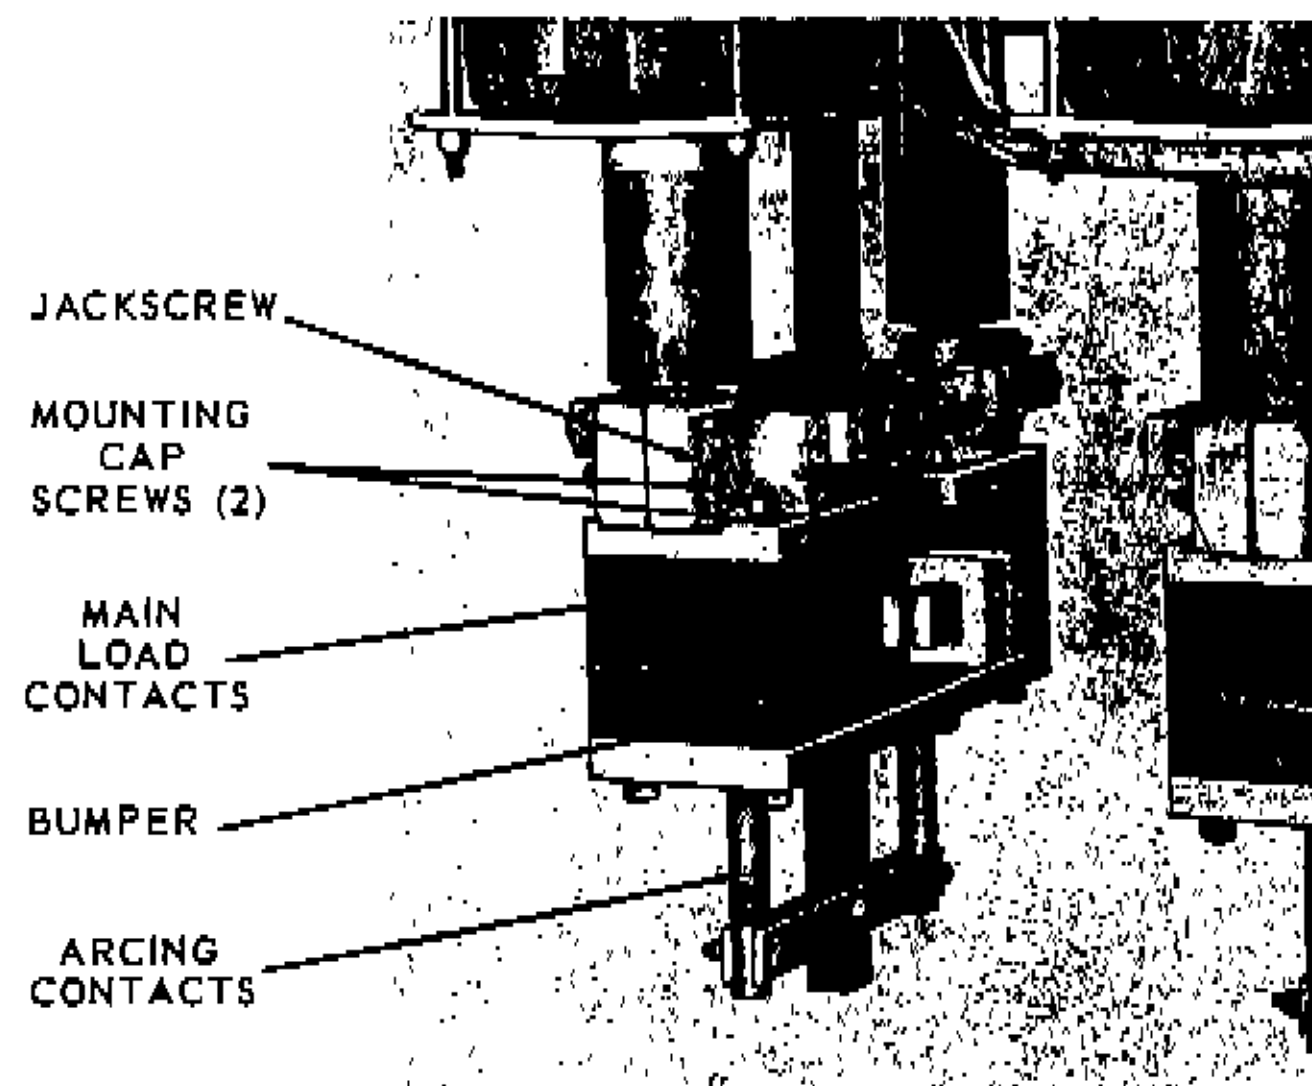

FIGURE 17
1. Loosen setscrews at side of stationary load contact assembly that are used to align the interrupter assembly with the bushing. See Figure 17.